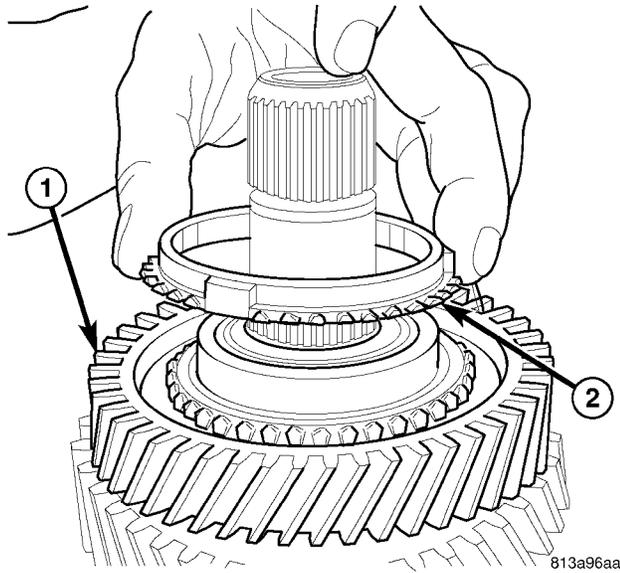

Fig. 29 REVERSE SYNCHRONIZER
(12) Remove reverse gear (1) (Fig. 29) synchronizer ring (2).